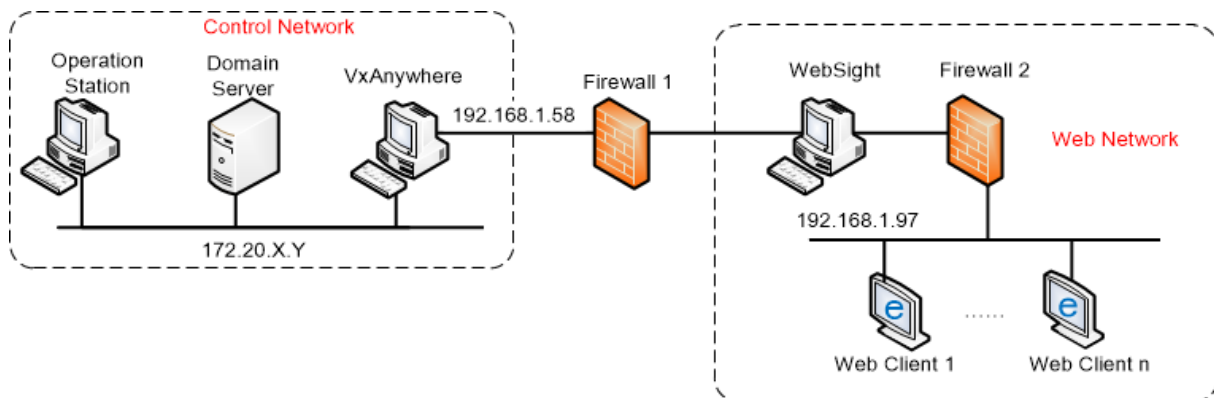

Figure 1-1 Typical network diagram of WebSight deployment
- Hereinafter the configuration items are the marked addresses in Figure 1-1.